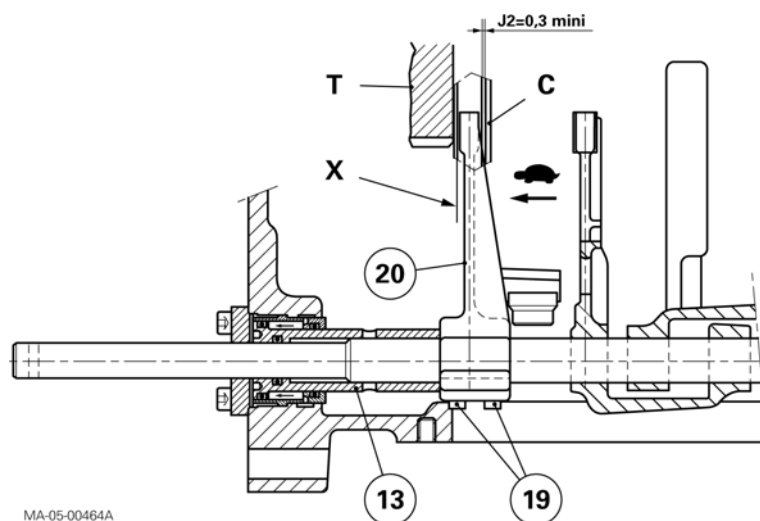

Fig. 22
75. Position the control piston (13) and the sliding coupler "C" in the low range (Tortoise) (Fig. 22).
76. Check that there is a clearance of **J2 = 0.3 minimum** (this value is determined by the clearance J1) between the pad and the sliding coupler when the latter rests against the pinion "T" of the low range (Fig. 22)